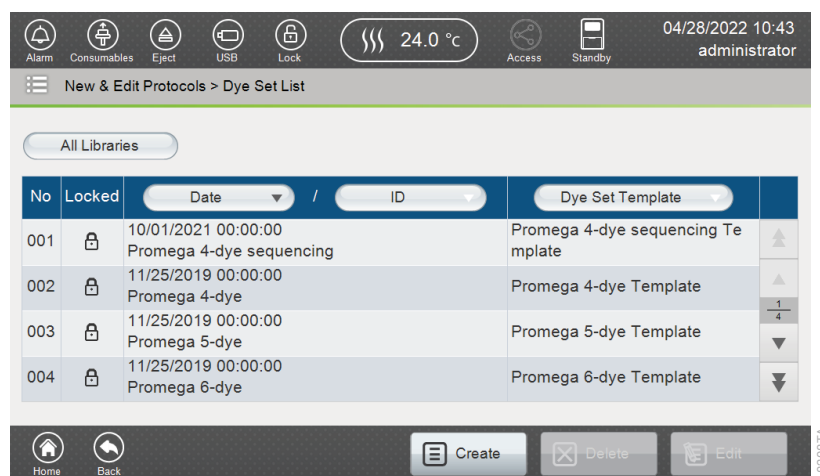

Figure 142. 'Dye Set List' screen.
1. Select **Dye Set** in the 'New & Edit Protocols' screen (Figure 117). This opens the 'Dye Set List' screen (Figure 142).